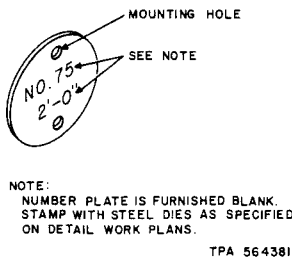

Fig. 4—Cable Location Number Plate
2.17 The cable location number plate (Fig. 4) is used to provide information for locating the cable for maintenance work. The number plate is an elliptical shaped, flat unmarked aluminum plate. The plate may be marked with steel dies as indicated on the detail plans of the project.